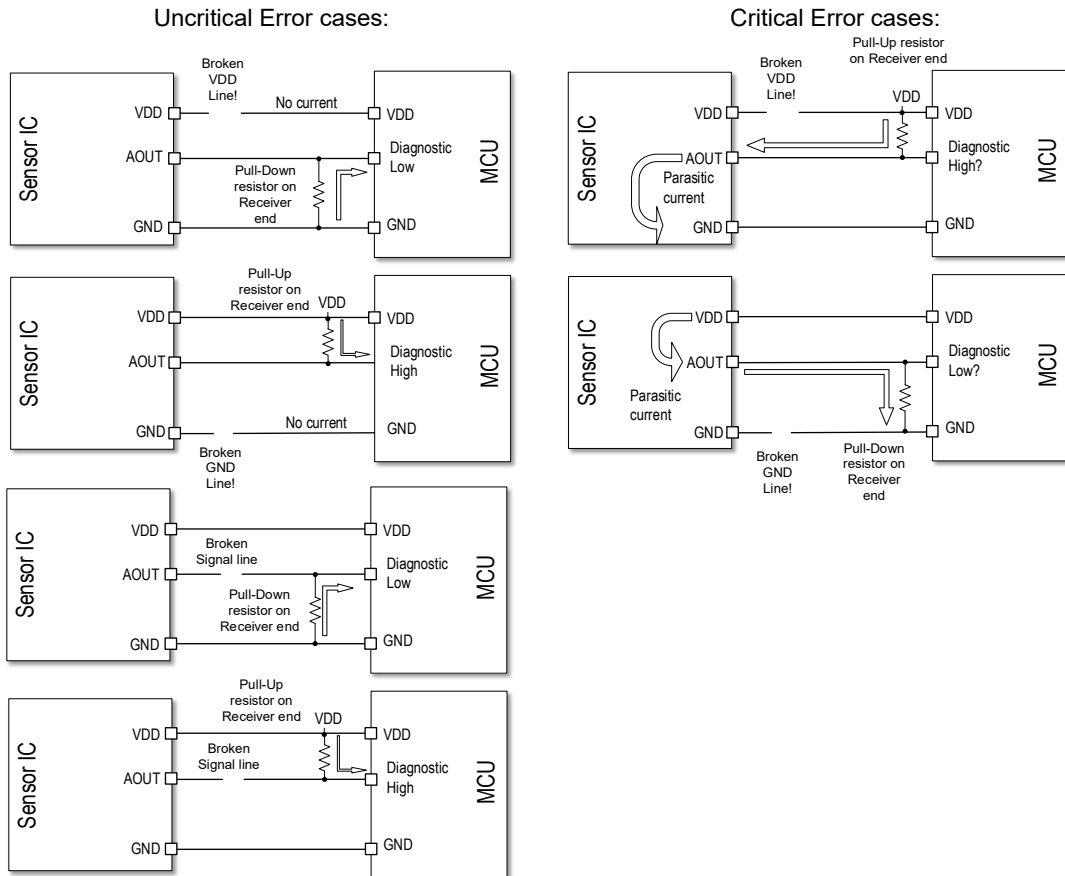

Figure 28. Parasitic currents on analog outputs with broken VDD or broken GND Lines
Most broken supply, broken GND, or analog output signal connection errors can be detected by monitoring the DC voltage levels at the analog output pin AOUT, see the uncritical error cases on Figure 28. If a diagnostic error or broken signal wire occurs, the DC voltage level at the affected pin is pulled into the diagnostic range (diagnostic high: $V_{OUT} > 95\% V_{DD}$ or diagnostic low: $V_{OUT} < 5\% V_{DD}$) through the external pull-up/pull-down resistors.
- a broken VDD supply wire with external pull-up resistors at the receiving end, see Figure 28.
- a broken GND wire with external pull-down resistors at the receiving end, see Figure 28.